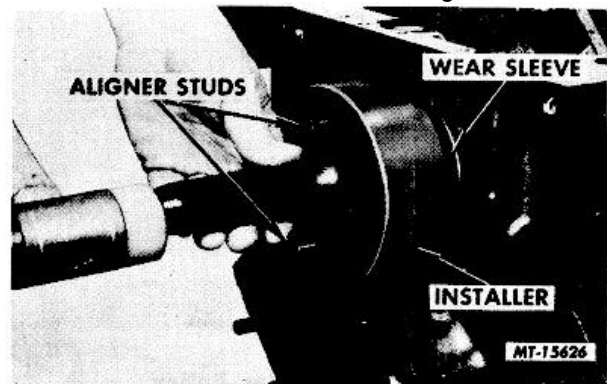

Fig. 151 Installing Oil Seal Wear Sleeve
- a. Install aligner studs SE-2092-3 into end of crankshaft flange (Fig. 151).
- c. Position installer tool SE-2092-1 over aligner studs (Fig. 151) and drive wear sleeve onto crankshaft flange until installer tool seats against crankcase. This will correctly locate wear sleeve (Fig. 151).